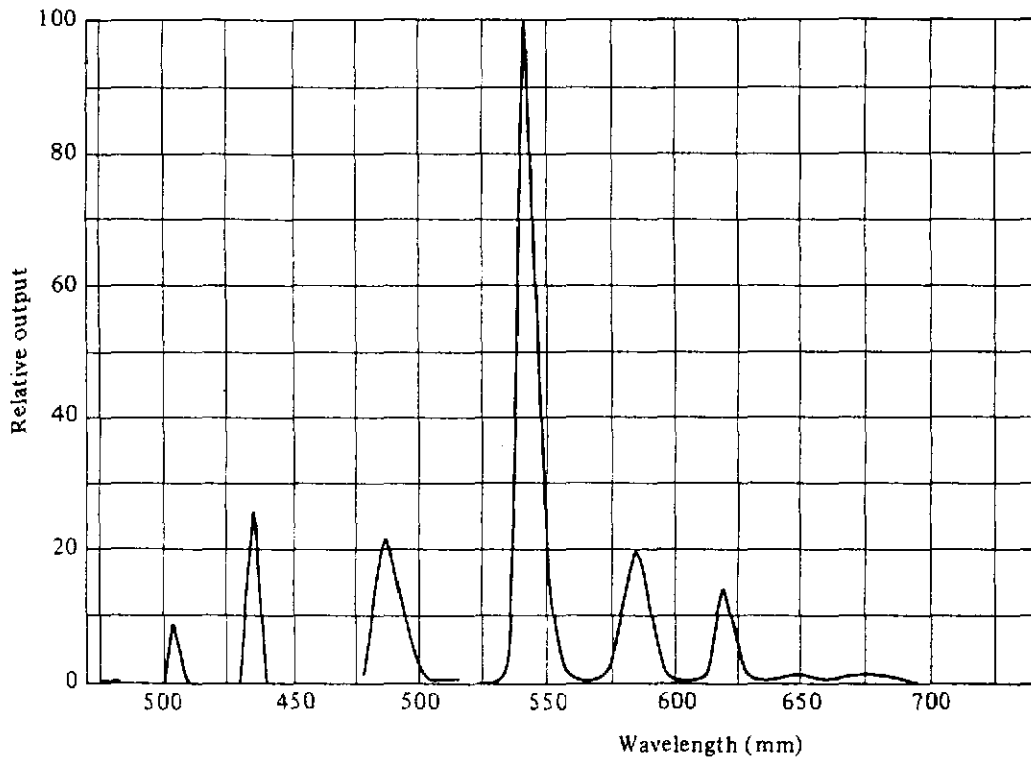

Figure D.1 Spectrum band
- (1) The spectrum band shown in Figure D.1 is used for measurement.
- (2) A black is used for measuring sufficiently large areas.
- (3) The measurement must be made in one of the following ways:
As the drop-out color, a printing color (Green) whose maximum PCS value is 0.14 or less and average value is 0.10 or less in the spectrum band shown in Figure D.1 is used.